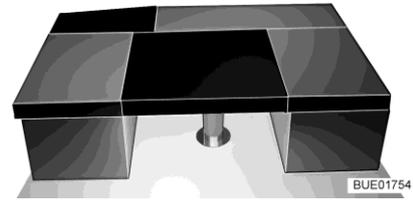

Fig. 160 After conversion
- Place the rectangular additional cushion on the table (between the seat cushions of the benches, see Fig. 160).